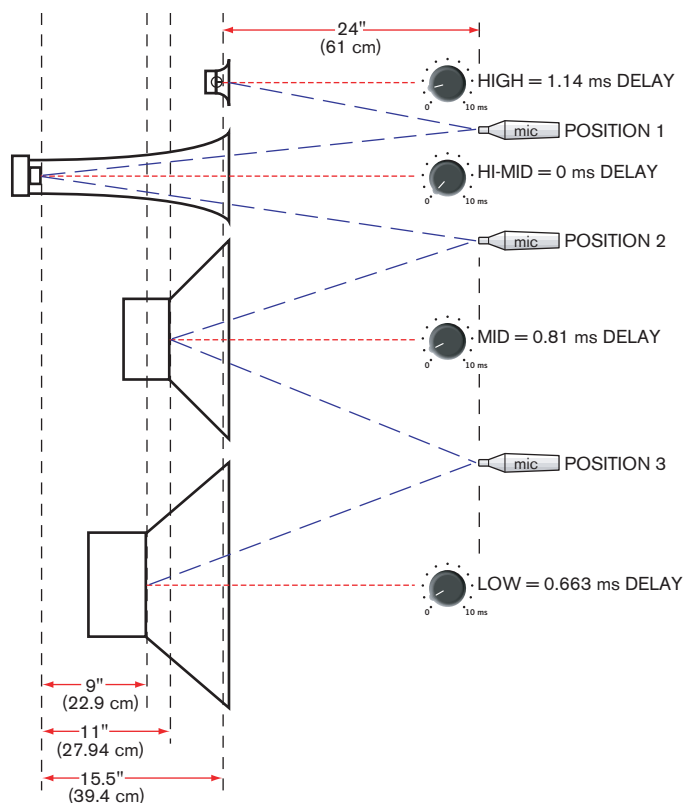

Figure 4. Delay settings calculated using furthest driver as zero.
2. Take the distance, *measured in inches*, for each driver and divide by 13.57. This gives the delay in milliseconds and pot rotation in "fractional-dots." See Figure 4.
OK, so you want to do this the hard way. The following example outlines one method for Signal Delay alignment of the system in Figure 4. The procedure easily adapts to other configurations.
- e. Place the RTA microphone about 24 inches [60 cm] away from the speaker stack, as close to equidistant to each driver as possible (see Figure 4).
- 5. Set the Delays starting with the driver furthest back (the one that gets zero delay) and work outward (see Figure 4).
- a. Place the RTA mic in Position 1 as shown in Figure 4.
- i) Referring to Figure 4, note the Hi-Mid Output is the furthest back and requires no delay.
- a. Place the RTA mic in Position 2 as shown in Figure 4.
- i) Referring to Figure 4, note that the Hi-Mid Output is the furthest back and requires no delay.
- a. Place the RTA mic in Position 3 as shown in Figure 4.